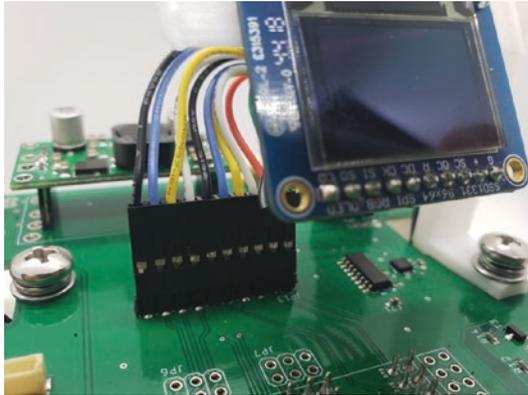

Figure 8-63. Attach the LCD connector to the PCB
18. Connect the other side of the LCD wiring harness to the PCB. Use a multimeter just to make sure all contacts are making the proper connection. See Figure 8-63.